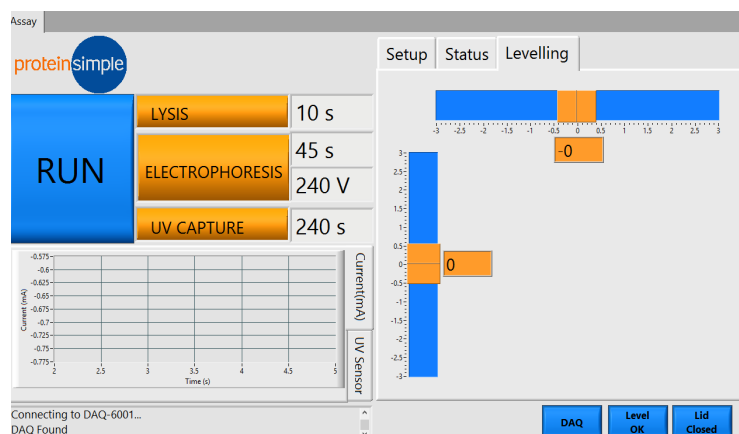

Figure 5-9: Ensure the instrument is level and that the electronic levels both read $0 \pm$ degrees on the Leveling tab.
- 4 Make sure the instrument is level by selecting the **Leveling** tab on the touchscreen interface. If the instrument is not completely leveled, adjust all four instrument feet until both electronic levels read a value of 0 ± 0.2 degrees. It is easiest to adjust the level one axis at a time left to right first, then back to front (Figure 5-9).